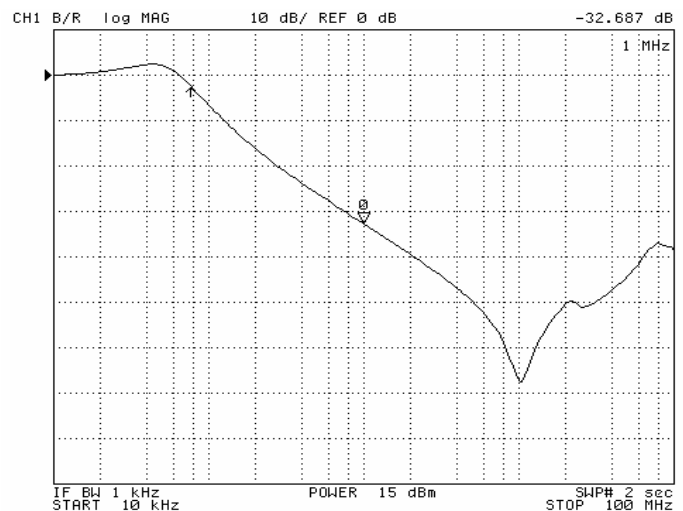

Fig. 4: F4810/F2410 - Common Mode attenuation, 0.2-100 MHz. Source and load resistances are 50 Ω. Two 0.1μF Y-
2. 50 Ω source and 50 Ω load impedance; external common-mode capacitors 0.1 μF (from IN+ and IN- to the common chassis). See Fig. 4 for attenuation in the 20 kHz-100 MHz frequency range.
Fig. 4 shows Common mode attenuation with 50 Ω source and load. The attenuation is the same for both filters, and depends on the value of external Y-capacitors, connected between input pins and frame or a reference ground.